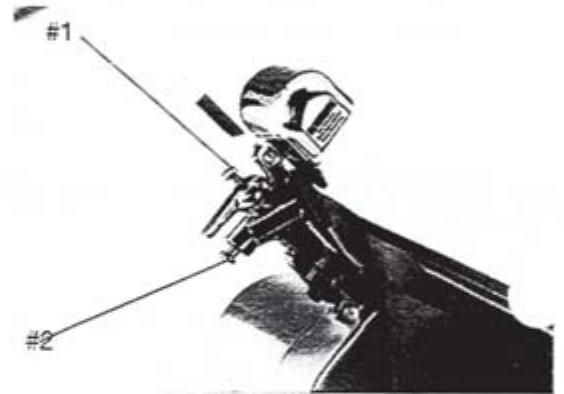

Figure 20-2
3. Turn the handle counterclockwise (Fig. 20-2, #1) to bring stones into contact with the knife. Maintain pressure on the handle until knife has a sharp edge. Be sure both stones are in good contact with knife only.
**NOTE:** If knife becomes very dull, activate only the bottom stone by pushing in Knob #2. (Fig. 20-2)